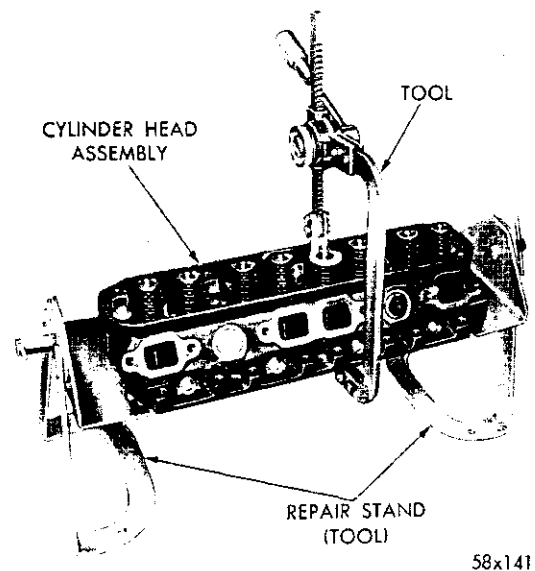

Fig. 13—Compressing Valve Spring Using Tool C-3422
(1) With the cylinder head removed, compress the valve springs, using Tool C-3422, as shown in Figure 13.
(2) Remove the valve retaining locks, valve spring retainers, valve stem cup seals and the valve springs.